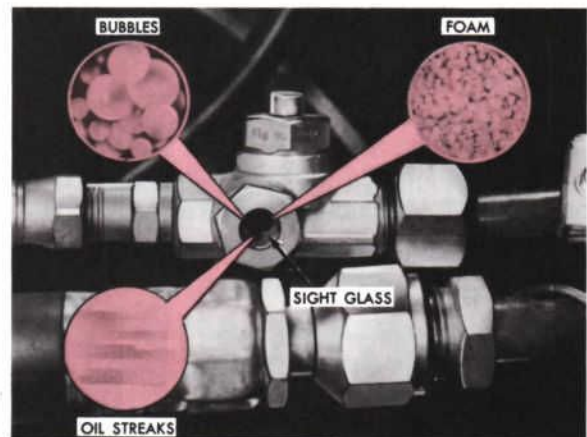

Figure 15—Sight Glass
If the discharge air temperature leads you to believe the refrigeration system could be operating more efficiently, check the sight glass. Continuous bubbles or foam (Fig. 15) in the sight glass indicate the system has lost part of its charge; that is, that some of the refrigerant has leaked out. Some bubbling is normal when the air conditioning is turned on. However, if the system has a full charge, there should be a solid stream of clear refrigerant, with perhaps an occasional bubble at very high temperature.
**Look for Compressor Oil.** Another trouble indication is oil in the sight glass (Fig. 15). It may appear in streaks, or as a constant flow. Either way it indicates part of the charge has been lost.